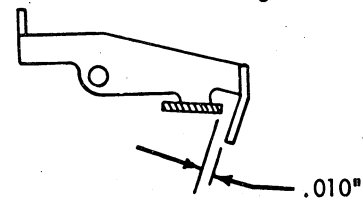

FIGURE 268. Stencil Locking
8. **Stencil Lockout** (Fig. 268) - With the lift lever in stencil position and the cam follower on the high point of the ribbon feed cam, form the ribbon feed latch for .010" clearance with the lug on the cam follower.